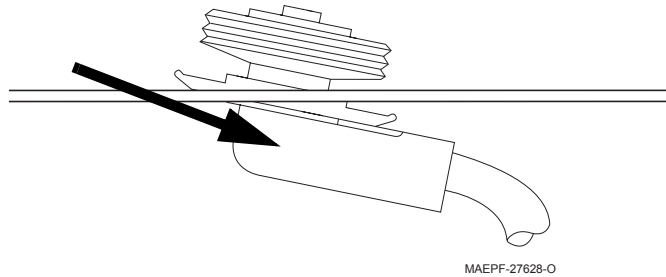

Figure 3. Inserting the Bushing Assembly
9. Refer to Figure 3. Insert the bushing assembly into the mounting hole as shown, tilted slightly. Be sure that all of the cable has been pulled through to the radio. The threaded portion of the bushing assembly will not fall through the mounting hole.